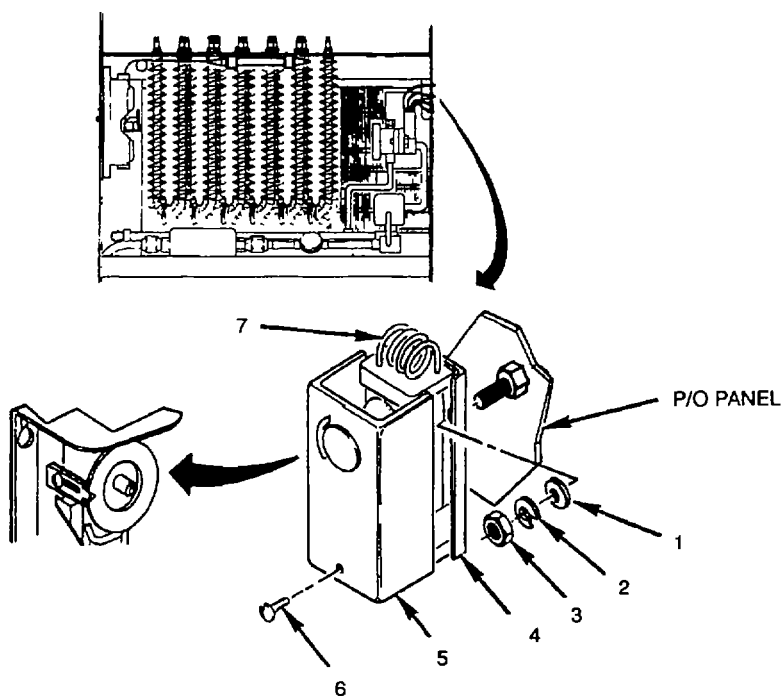

Figure 4-46. Heat Fault Thermostat (S8)
- a. Remove screw (6) from thermostat cover (5) (see fig 4-46)
- b. Remove cover (5) from thermostat (4).